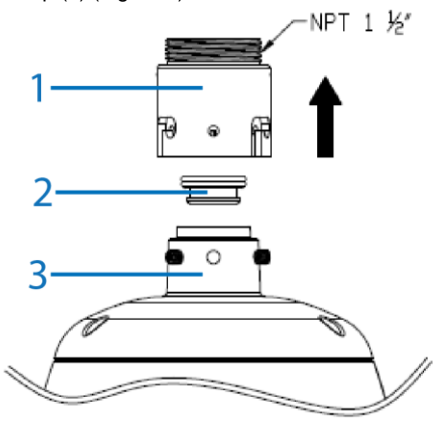

Figure 5
1. Securely place the rubber cable seal (2) (Figure 5) into the pendant cap (3) (Figure 5).
2. Place the mount adaptor (1) (Figure 5) on to the NPT pendant cap (3) (Figure 5) and align the holes on the mount adaptor with the holes on the NPT pendant cap.